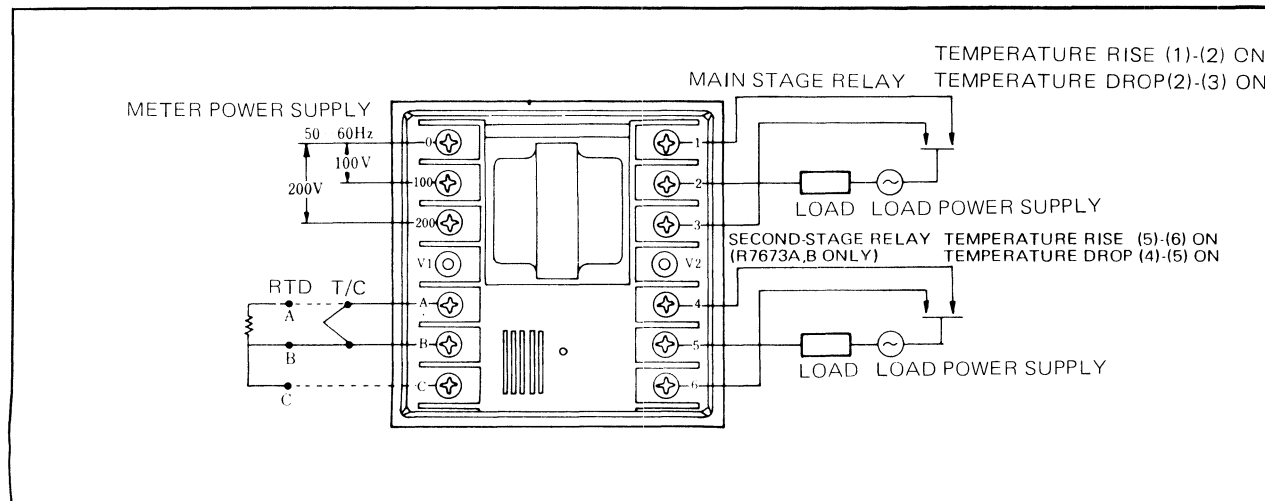

Fig. 2
(1) Use JIS C3307 600V vinyl-insulated wire having a conductor diameter of 0.5 mm to 1.25 mm and a finished outside diameter of 2.0 mm to 3.2 mm (AWG #22—#16).
(2) Wire the instrument according to the external connection terminal symbols. Use solderless terminals. (See Figure 2.)